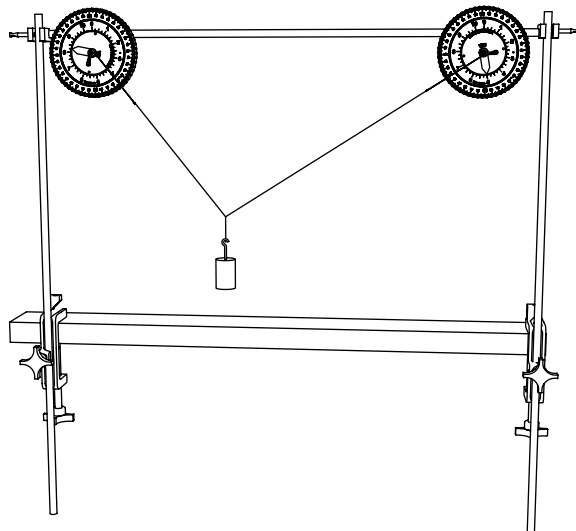

Figure 1.3: Set-up
1. Clamp two rods (90 cm long) vertically to the table, approximately 80 cm apart. Attach two Tension Protractors (oriented with zero degrees horizontal) to a cross rod, and clamp this rod between the vertical rods as shown in the Figure 1.3 (but don't attach the mass yet).
4. Cut a string about 60 cm long. Tie a loop about 25 cm from one end so that the string length on one side of the loop is about 20 cm and the string length on the other side of the loop is 35 cm. Tie one end of the string to the wire hook on one of the Tension Protractors and tie the other end of the string to the wire hook of the other Tension Protractor. Hang a 500 g mass from the string loop (Figure 1.3).